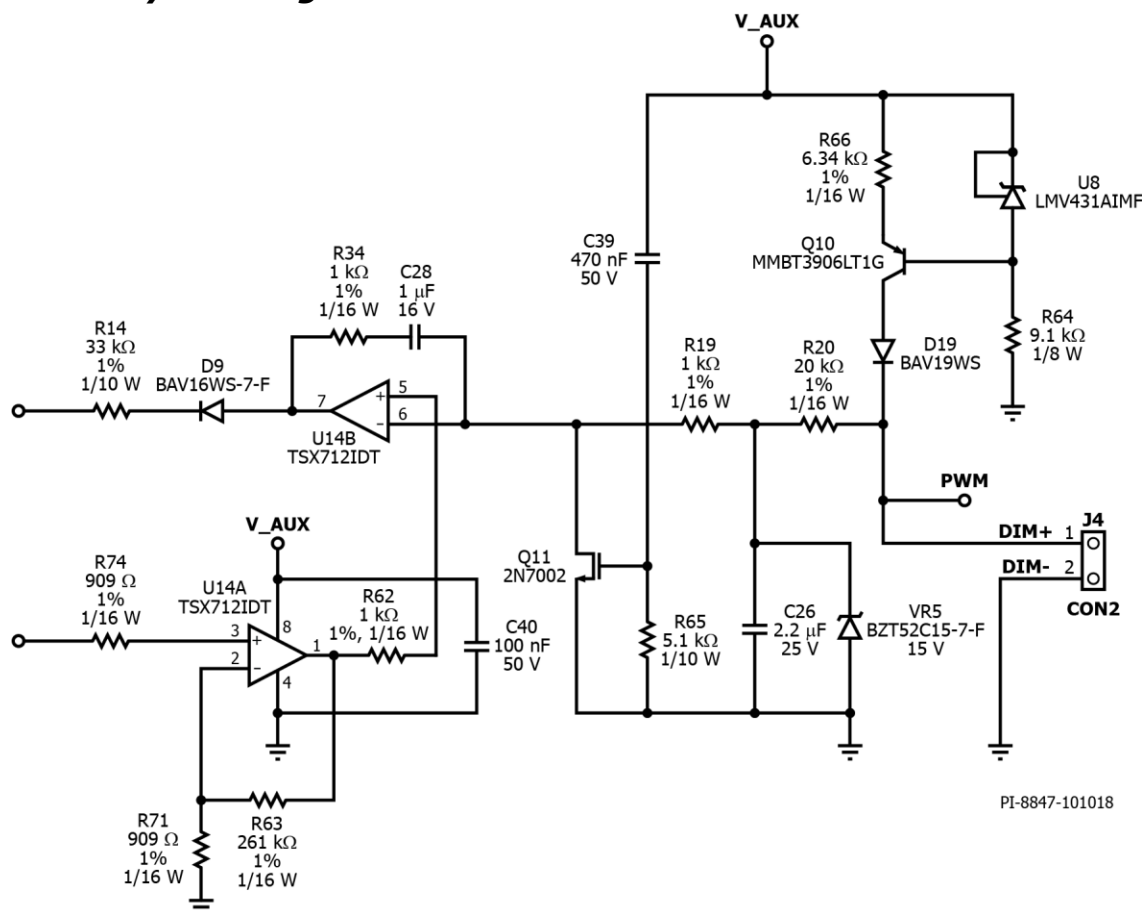

Figure 6 – 3-Way Dimming Circuit Diagram.
The 3-way dimming control circuit is shown in Figure 6. DIM+ and DIM- are input terminals for three ways of dimming the LED output. Through the IS pin, output current from the RTN terminal is sensed through R24 and R51 resistors. The voltage signal of these resistors is the input to the non-inverting amplifier U14A. The gain is set at around 261 through R71, R74, and R63 with resulting voltage of around 9 V. The output of U14A is also the non-inverting input of U14B through R62. The inverting input (pin 6) is supplied with the dimming input type: (1) variable DC supply (0 V – 10 V), (2) variable resistance (0 - 100 kΩ), or (3) variable duty PWM signal (0 - 100%, 100 - 3 kHz).